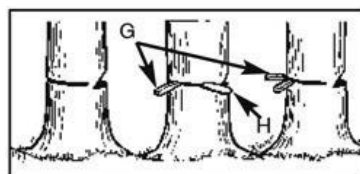

Fig. 2C
- Use wooden or plastic wedges (G) to prevent binding the bar or chain (H) in the cut. Wedges also control felling (Fig. 2C).